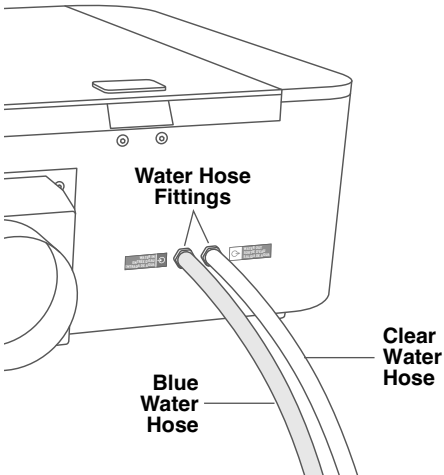

Fig. 8 — Rear of Dremel LC40 Laser Cutter
3. Match the blue and clear water tubes to the appropriate inlet and outlet fittings on the Dremel LC40 Laser Cutter and the Hex Box™, Fig. 8 & 9. The fittings are labeled with colors to help identify the appropriate tubes.